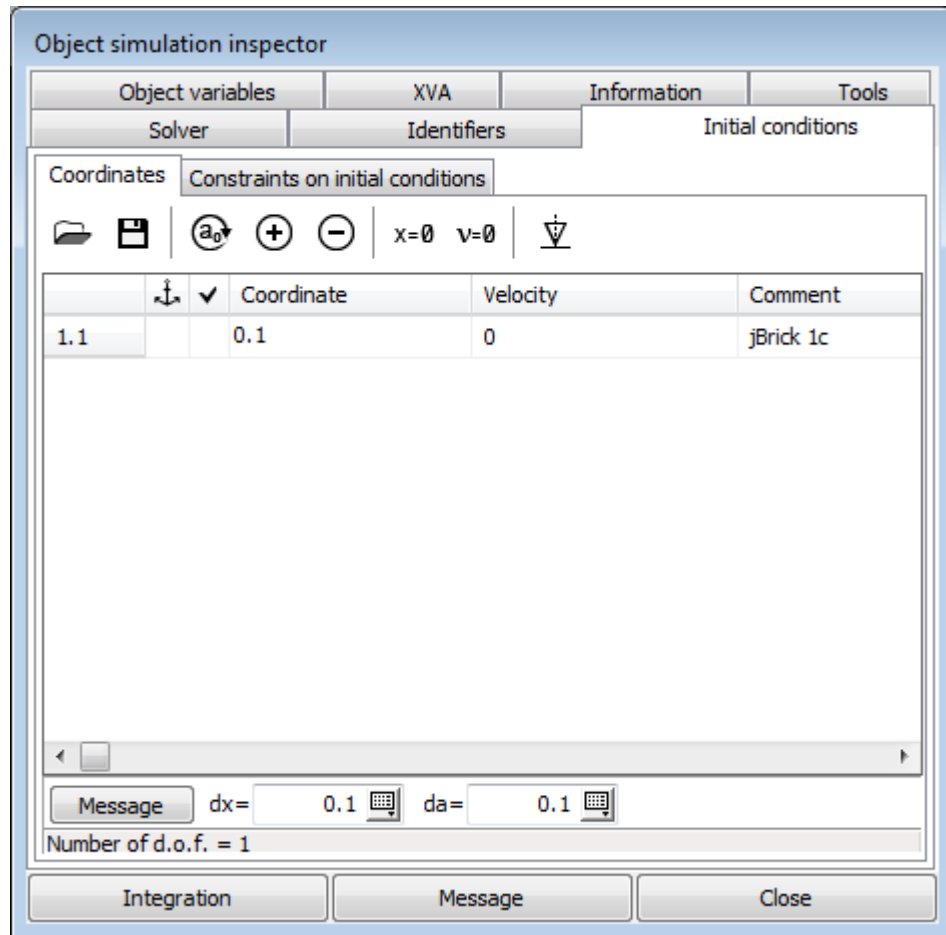

Figure 2.20. Initial conditions coordinate tab
9. Select the **Initial conditions** tab. In **Coordinate | 1.1** input **0.1** see in Figure 2.20. We need to shift the brick a bit because its position at zero coordinate is quite near to its equilibrium position that gives us small amplitude of oscillations if we do not shift the body.